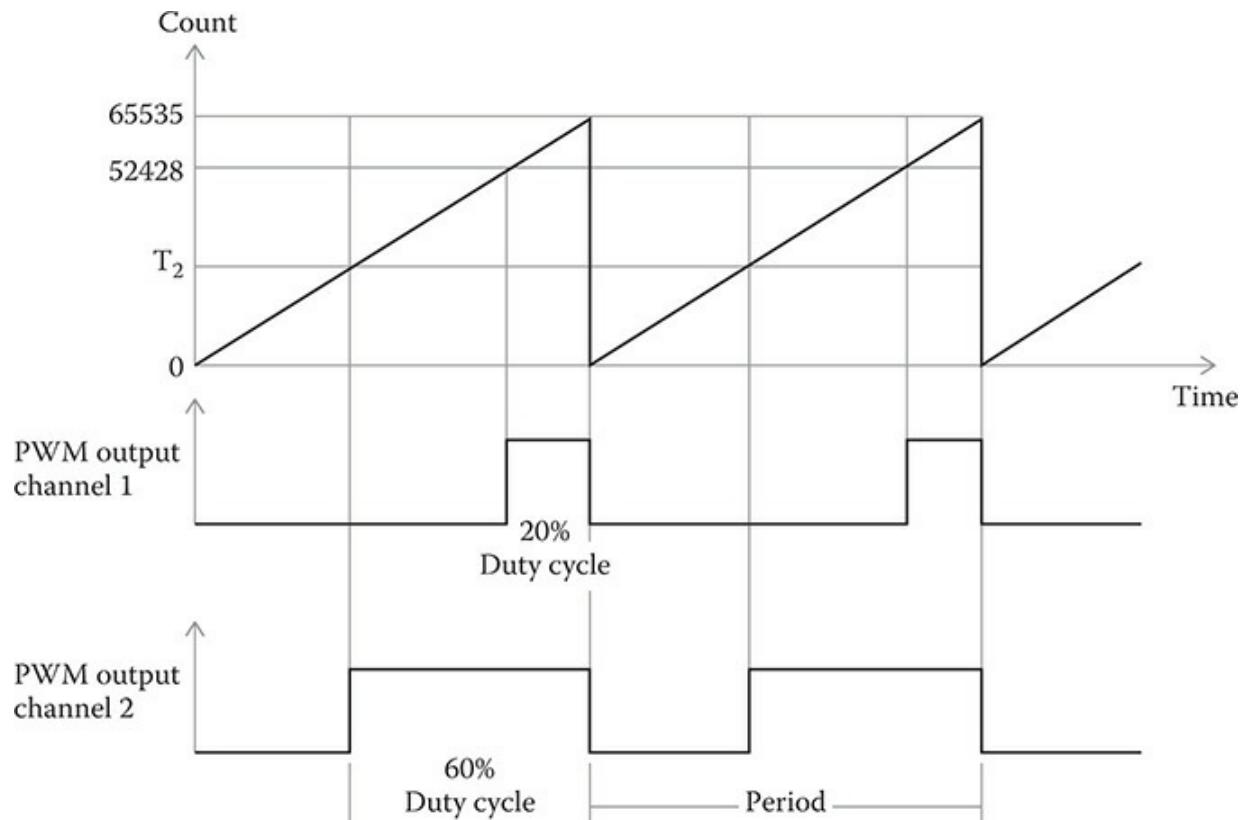

Figure 10-2 PWM signal generation.
The signal generation is relatively simple and involves using a timer in an upcounting mode. The top portion of Figure 10-2 shows a timer counting up from 0 to a maximum 16-bit count equal to 65535.
Each GP timer has a series of registers known as compare capture registers (CCRx), which store a number. When the upcounting reaches that number, an event is generated that depends on the timer mode. If the timer is set for a direct output as is the case for this PWM mode, then the event will be to turn on the channel associated with the CCRx register. In Figure 10-2, channel 1 is switched high when the count reaches 52428. The channel remains high until the timer counter reaches the maximum count (MAX) and overflows or resets as shown in the top waveform. The net result of this action is that a repetitive pulse is emitted from the channel 1 line with a 20% duty cycle. The following equation relates the timer count with the duty cycle (DC):
In Figure 10-2, I have also shown an additional channel output with a desired 60% duty cycle but no specific count shown for the CCRx register. I will use the second form of the equation to solve for T_2 , which is the count value to be stored in register CCR2: